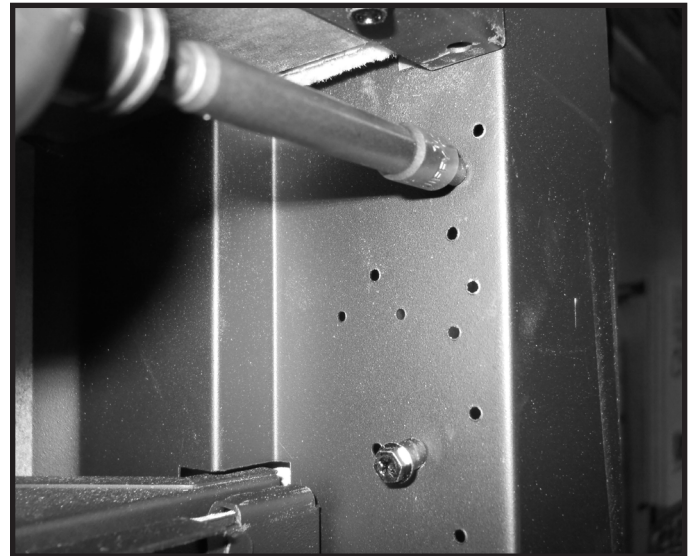

Figure 4. Install Shoulder Screws
3. Using a 1/4 inch drill driver, attach the two shoulder screws removed in Step 2 into the pilot holes on the top left and top right side columns of the appliance, as shown in Figure 4. Tighten until snug. Do not overtighten.